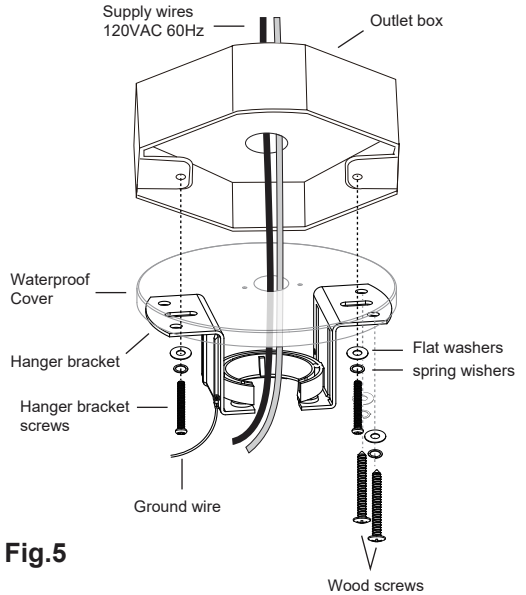

Fig.5
Step 1. Pass the 120-volt supply wires through the waterproof cover and ceiling hanger bracket as shown in Fig.5.
Step 2. Secure the waterproof cover and hanger bracket to the ceiling outlet box with the screws and washers included with mounting hardware. (Fig.5)